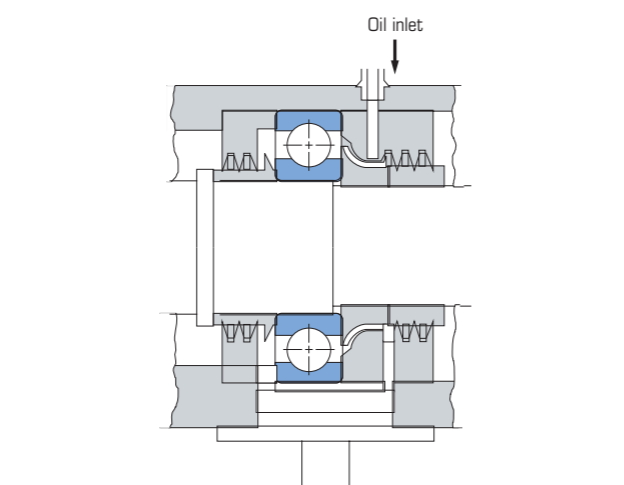

Figure 6.3 Example of Mist Oil Delivery by Slinger
- The nozzle can spray directly onto the bearing, or it can spray onto the bearing using the centrifugal force of the tapered part of a slinger installed on the axis (Figure 6.3).